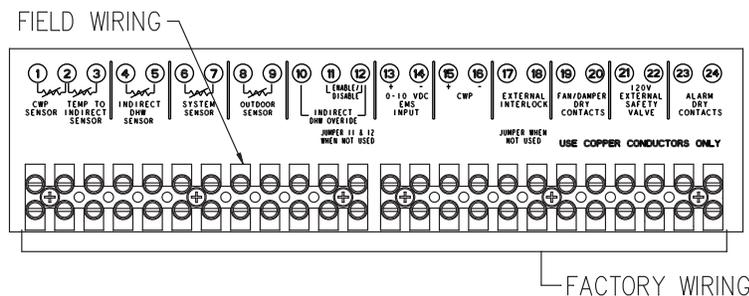

Fig. 25: Low Voltage Field Wiring
Connect the Enable/Disable terminals to the field wiring terminal (shown in Fig. 25). Alternately, any dry
4. Connect an Energy Management system or other auxiliary control signal to the terminals marked 0-10V (+ /-) on the PIM™ (see Fig. 25). Caution should be used to ensure that the +0-10V connection does not create a short to ground.
2. Connect the system supply sensor to terminals 6 and 7 on the field wiring strip located on the Master PIM™ (See Fig. 25).
3. Connect the Outdoor sensor (if used) to terminals 8 and 9 on the field wiring strip located on the Master boiler (See Fig. 25).
4. Connect the Enable/Disable wiring to terminals 11 and 12 on the field wiring strip located on the Master boiler (See Fig. 25). This connection must be provided through dry contacts closure.
An alarm annunciator or light may be connected to the alarm contacts on the boiler PIM™. The Alarm Contacts are 3A rated dry contacts on a normally-open relay that close during fault or lockout conditions, and the maximum voltage across the contacts is 30 VAC or 30 VDC. See the Field Wiring as shown in Fig. 25.